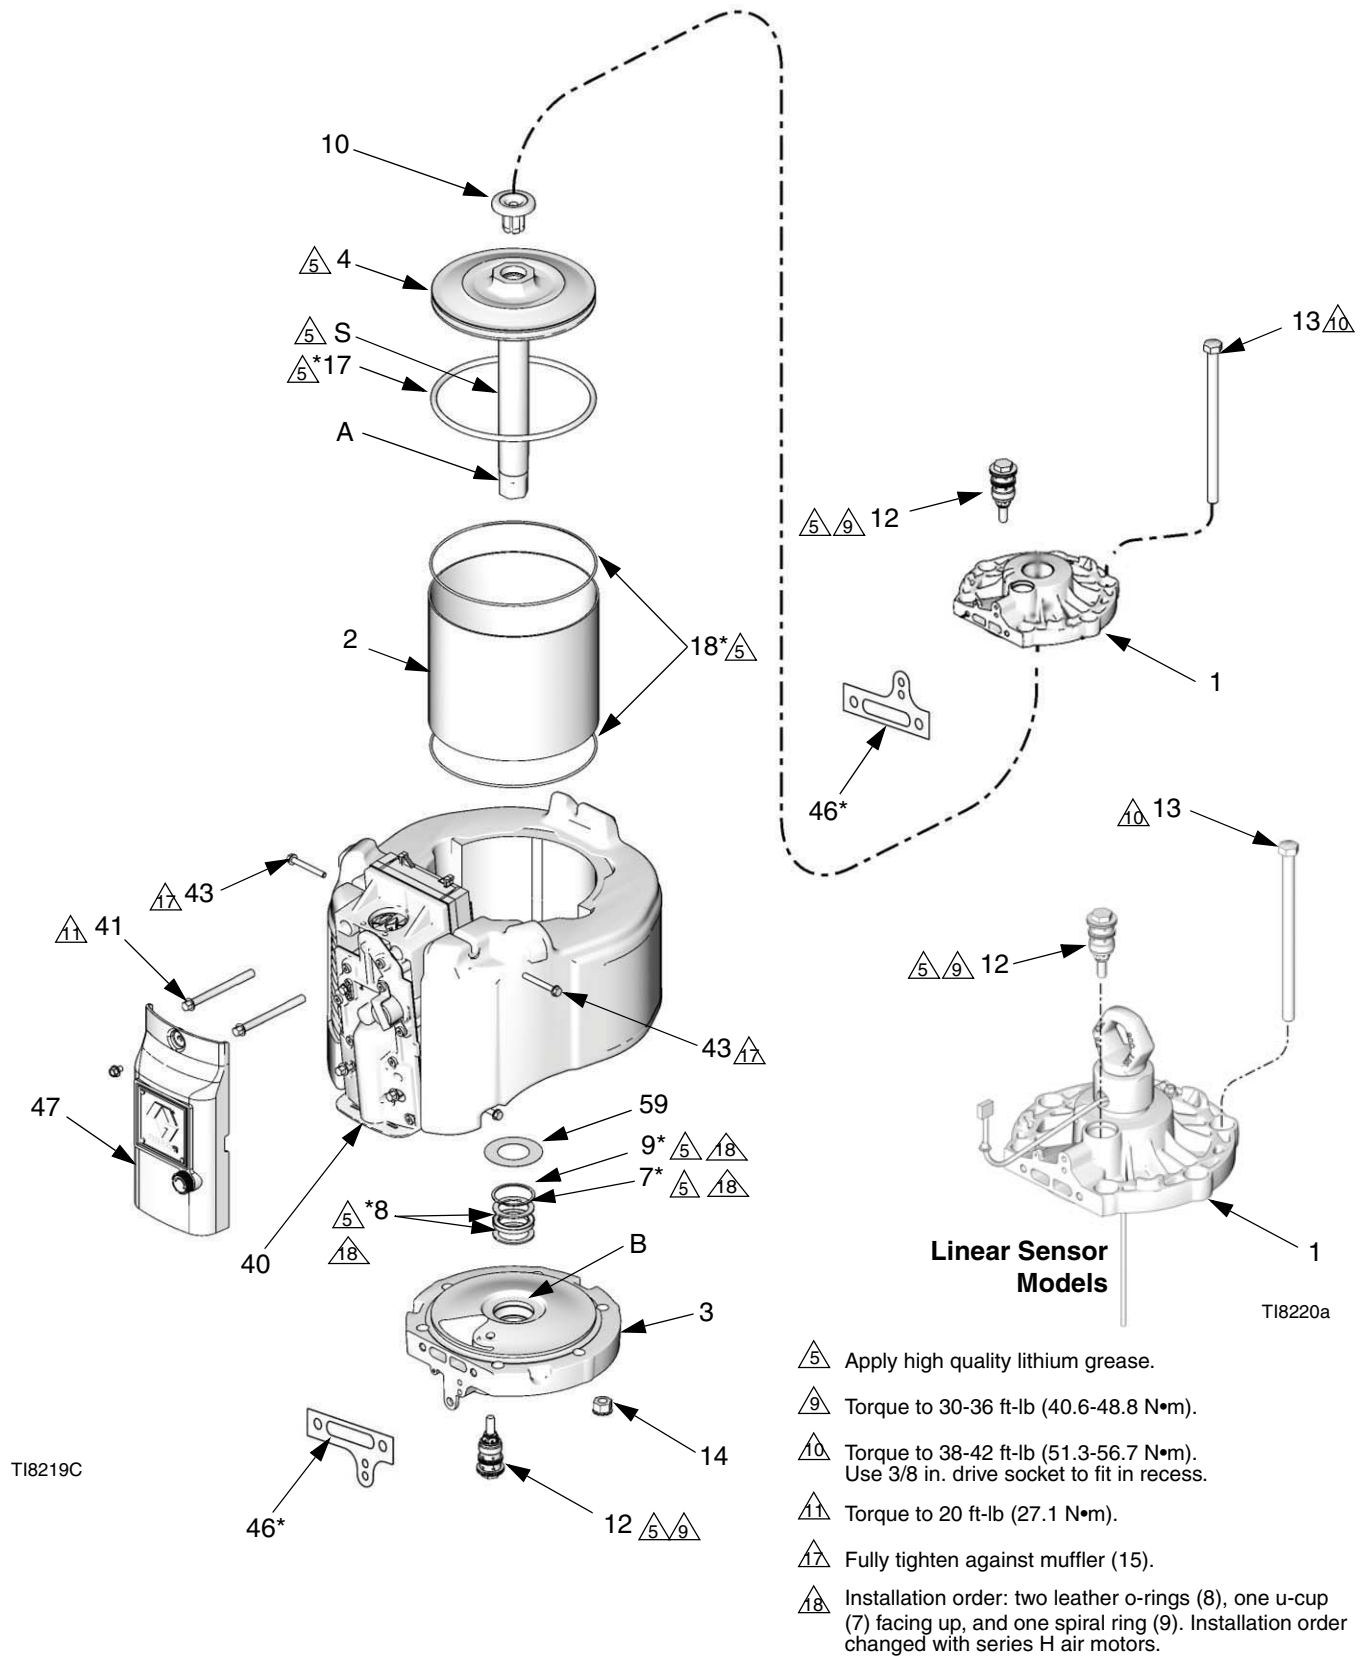

FIG. 12. Air Motor Repair
5. Remove the outer valve cover (47). See FIG. 12.
6. Remove the four screws (43) and the muffler (15).
7. Remove the top two air valve screws (41). Loosen but do not remove the bottom two screws (41). Tilt the air valve (40) to make disassembly easier.
8. Remove the tie bolts (13). Using a rubber mallet, hit the underside of the top cap (1) to separate. Lift the top cap off the motor.
9. Disconnect the air motor from the lower (see your separate pump manual). Leave the piston shaft adapter (A) attached to the shaft (S).
10. Push the piston assembly (4) out the top of the cylinder (2).
11. Inspect the piston o-ring (17). Check the piston (4) and piston shaft (S) for scoring or damage. The replacement piston (4) includes the piston, shaft (S), adapter (A), and bumper (10).
12. Remove the cylinder (2). Check the inner surface for scoring or other damage. Replace if damaged.
13. Remove the bumper (59), retaining ring (9), backup packings (8), and v-packing (7) from the bottom cover (3). Inspect these parts for wear or damage. Inspect the bearing (B) in place (slight scoring is acceptable). If the bearing is damaged, replace the bottom cover (3).
1. See FIG. 12. Install two backup packings (8*), and then v-packing (7*) with the lips facing up. Then install the retaining ring (9*) in the bottom cover (3). Lubricate the packings. Install the bumper (59).